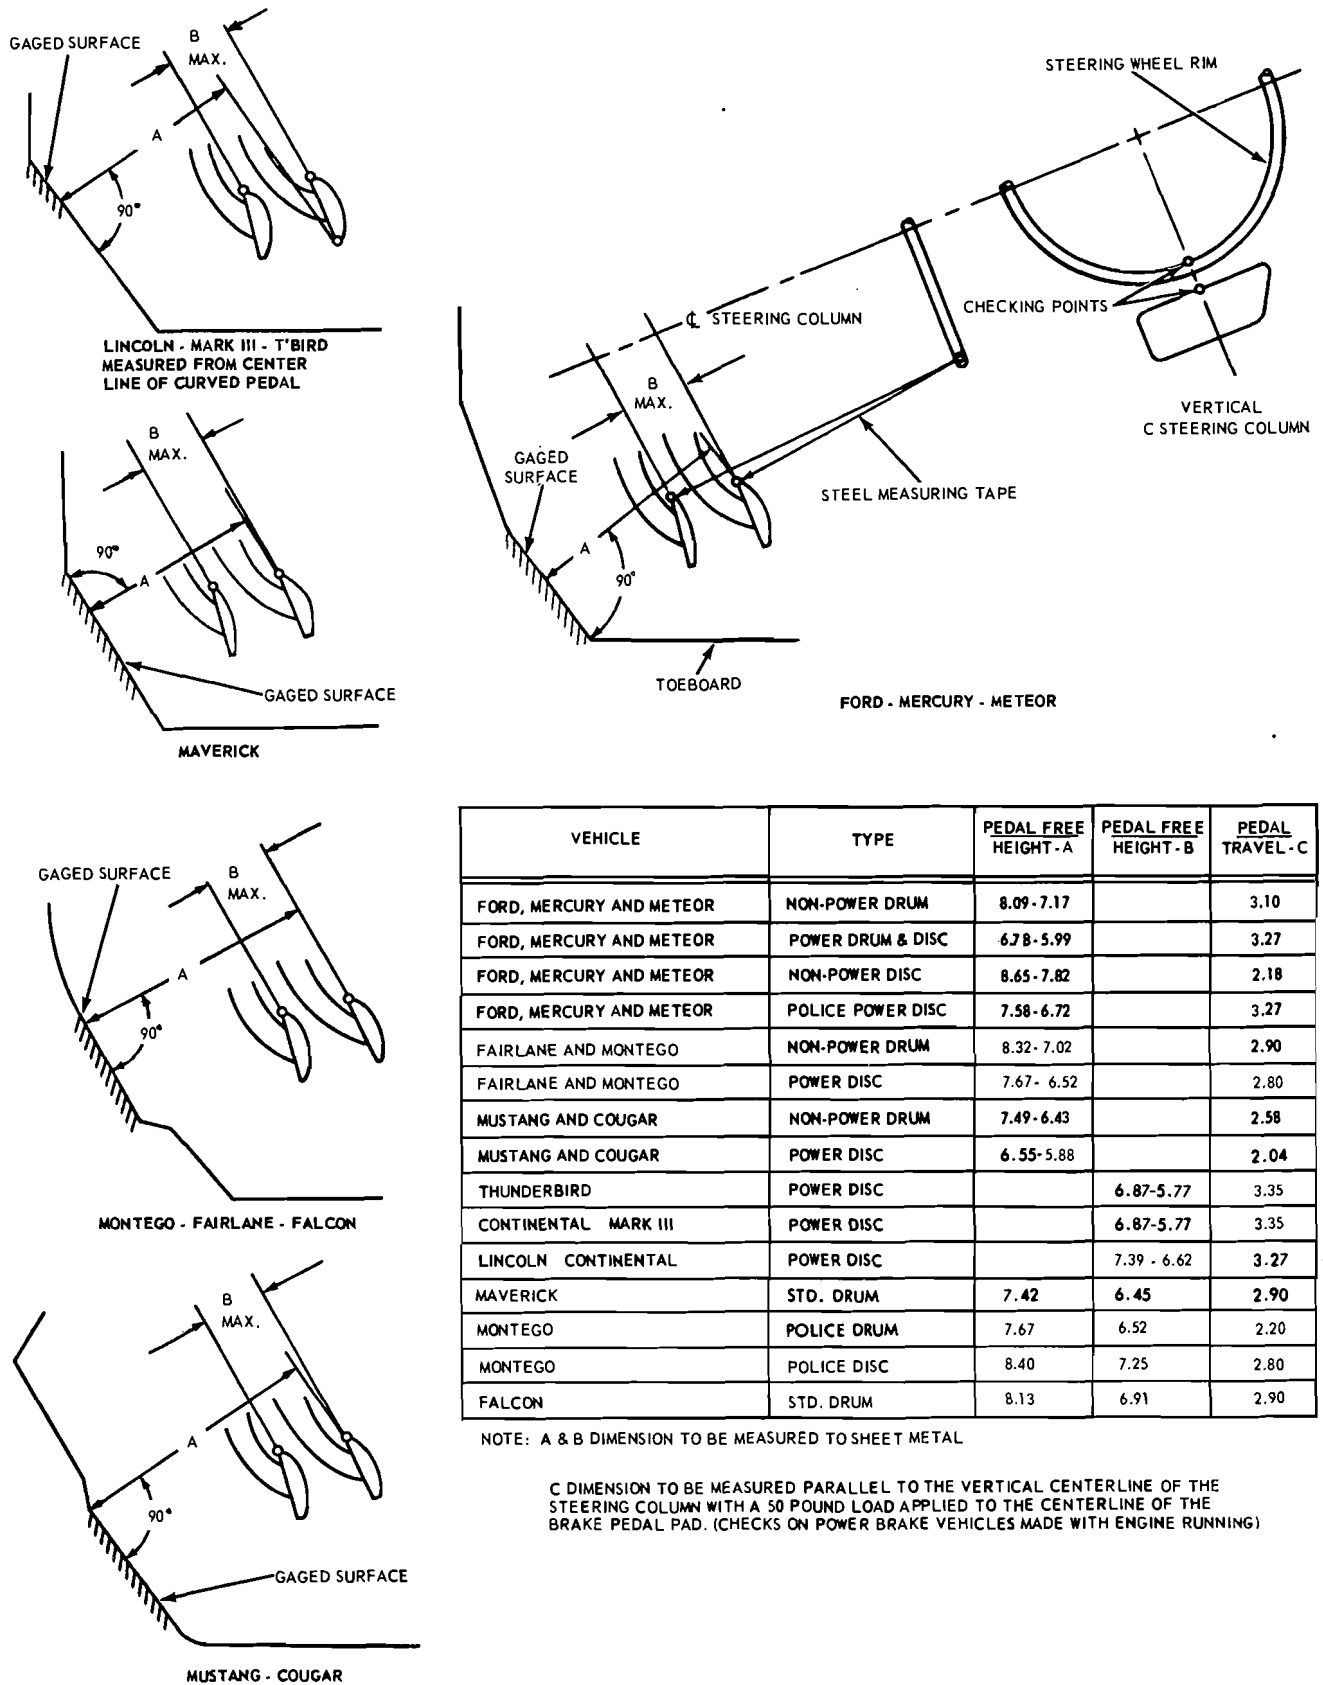

FIG. 1—Brake Pedal Height and Travel Measurements
1. Insert a slender, sharp pointed prod through the carpet and sound deadener to the dash panel metal and measure the distance to the brake pedal (Fig. 1).
2. Hook a steel measuring tape to the brake pedal as shown in Fig. 1. Measure and record the distance from
4. The difference between the brake pedal free height and the depressed pedal measurement under a 50 pound load should be within the specified maximum pedal travel service specification B in Fig. 1.
5. If the pedal travel is more than the specified maximum shown in Fig. 1, dimension C, make several sharp reverse stops (equivalent to 50 pounds pedal pressure) with a forward stop before each. Move the vehicle in reverse and forward for a distance of approximately ten feet; then, apply the brakes sharply and hold the brake pedal down until the vehicle is completely stopped. This will actuate the brake self-adjusters. If these stops do not bring the brake pedal travel within specification, make several additional forward and reverse stops as outlined above.